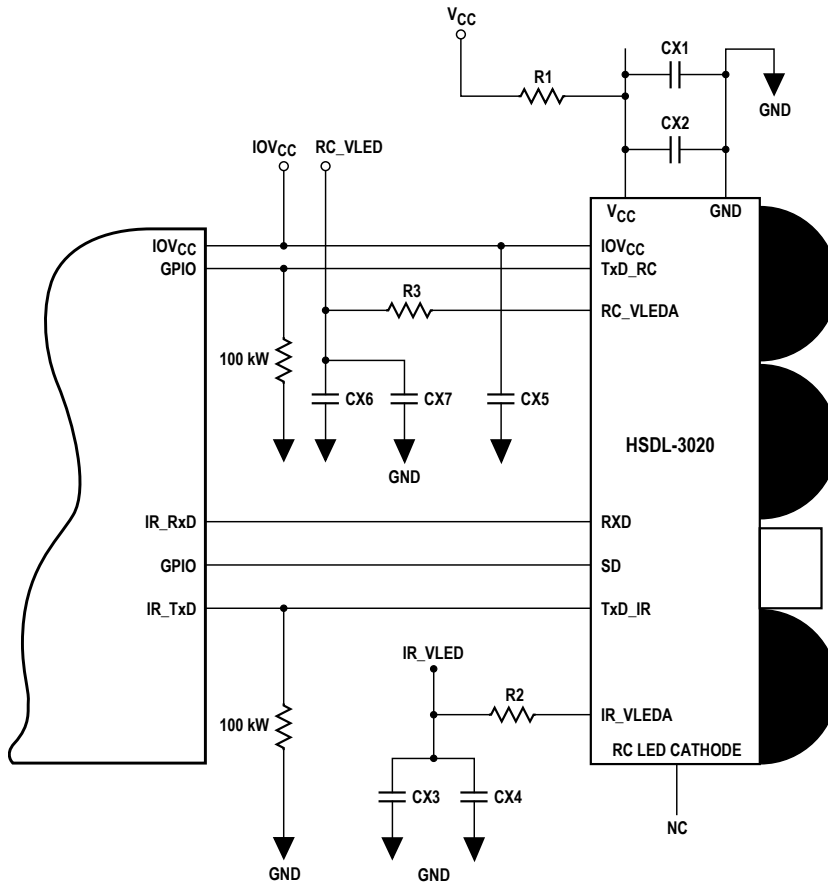

Figure 3: HSDL-3020 configuration with general mobile architecture processor.
* Detailed configuration of HSDL-3020 with the controller chip is shown in Figure 3.
The transceiver is directly interfaced with the microprocessor provided its support infrared communication commonly known as Infrared Communications Port (ICP). The ICP supports both SIR data rates, with up to 115.2 kbps, and sometimes FIR data, with data rates up to 4 Mbps. The remote control commands can be sent to one of the available General Purpose IO pins or the UART block with IrDA functionality. It should be observed that although both IrDA data transmission and Remote control transmission is possible simultaneously by the hardware, the software is required to resolve this issue to prevent the mixing and corruption of data while being transmitted over the free air. The above Figure 3 illustrates a reference interfacing to implement both IR and RC functionality with HSDL-3020.